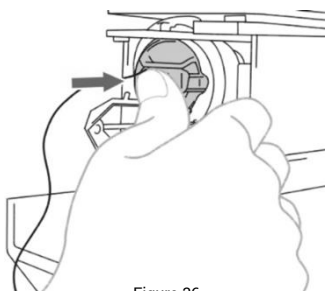

Figure 36
4. Push in the bobbin case slightly and ensure the bobbin case clicks into place. See Figure 36.